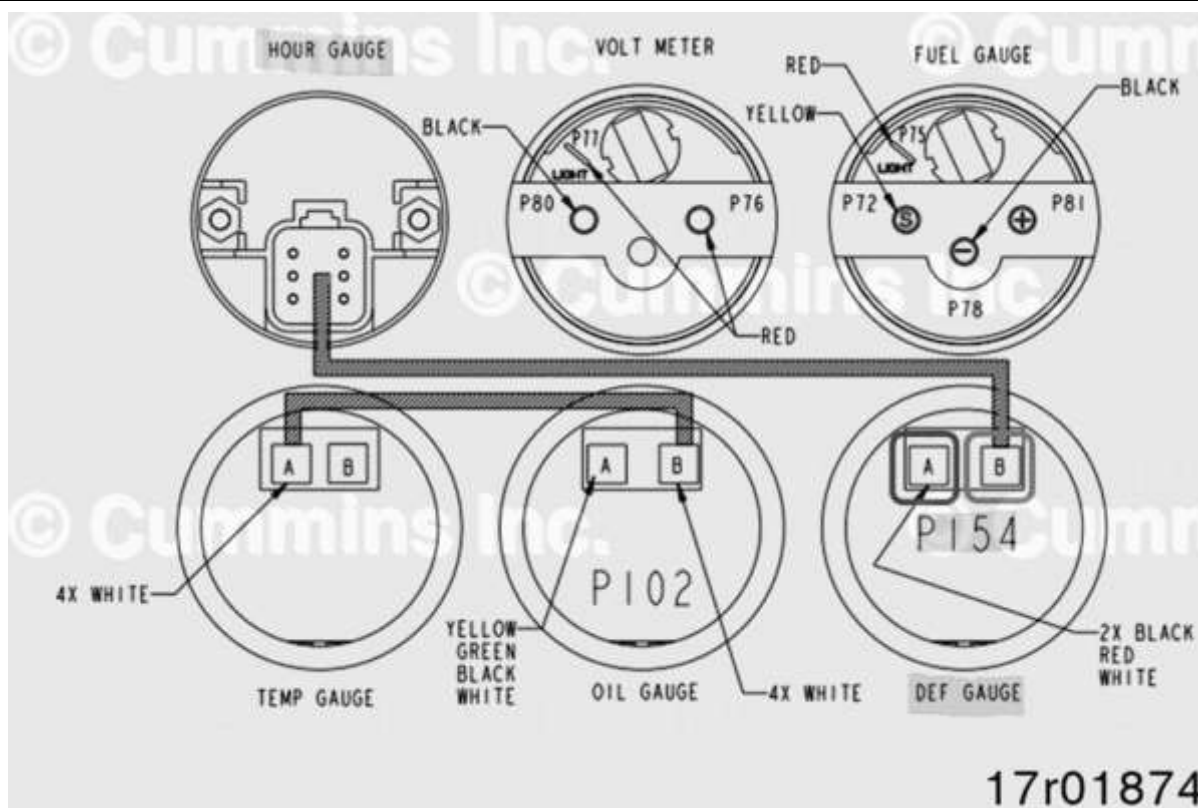

Figure 6, DEF Gauge and Hour Meter Wiring Installation C200D2RE/C275D2RE
- 2 e. Remove cable tie securing P154A connector to main wiring harness above gauge cluster and connect to DEF level gauge at location 'A' (red box in Figure 6).
- 2 f. Using supplied jumper harness (blue line in Figure 6), connect DEF gauge location 'B' (blue box in Figure 6) to hour meter. Secure jumper to main harness with cable tie.